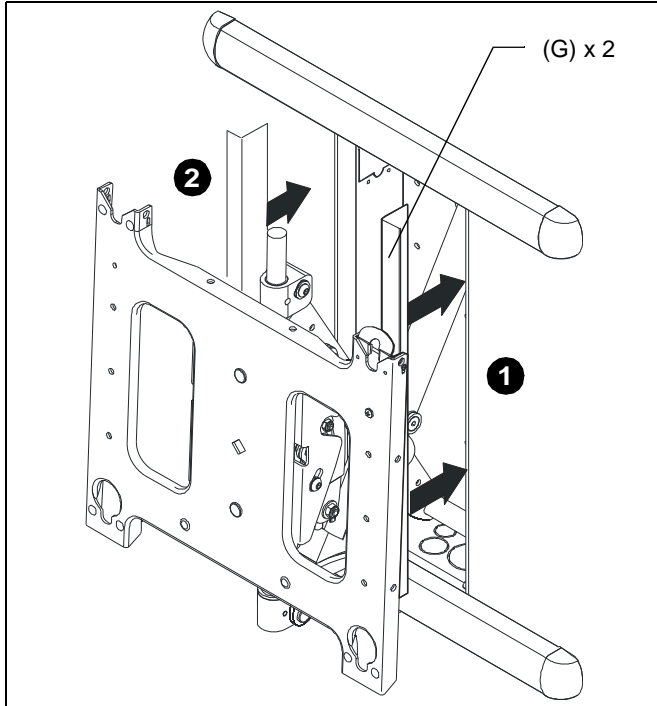

Figure 9
1. Orient two trim pieces (G) as shown in figure below. (See Figure 9)
2. Slide slat in trim edge over lip in mount enclosure and press trim (G) onto enclosure. (See Figure 9)